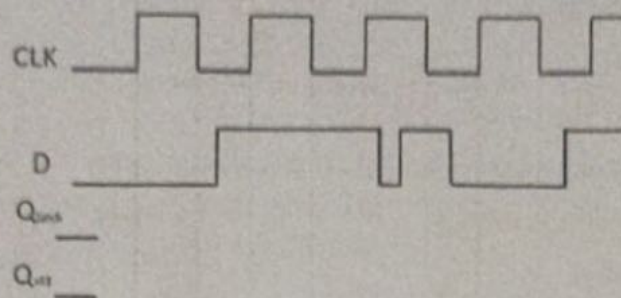

Figure.2
- (b) Complete the timing diagram shown in Figure 2 for two types of D flip-flop devices: